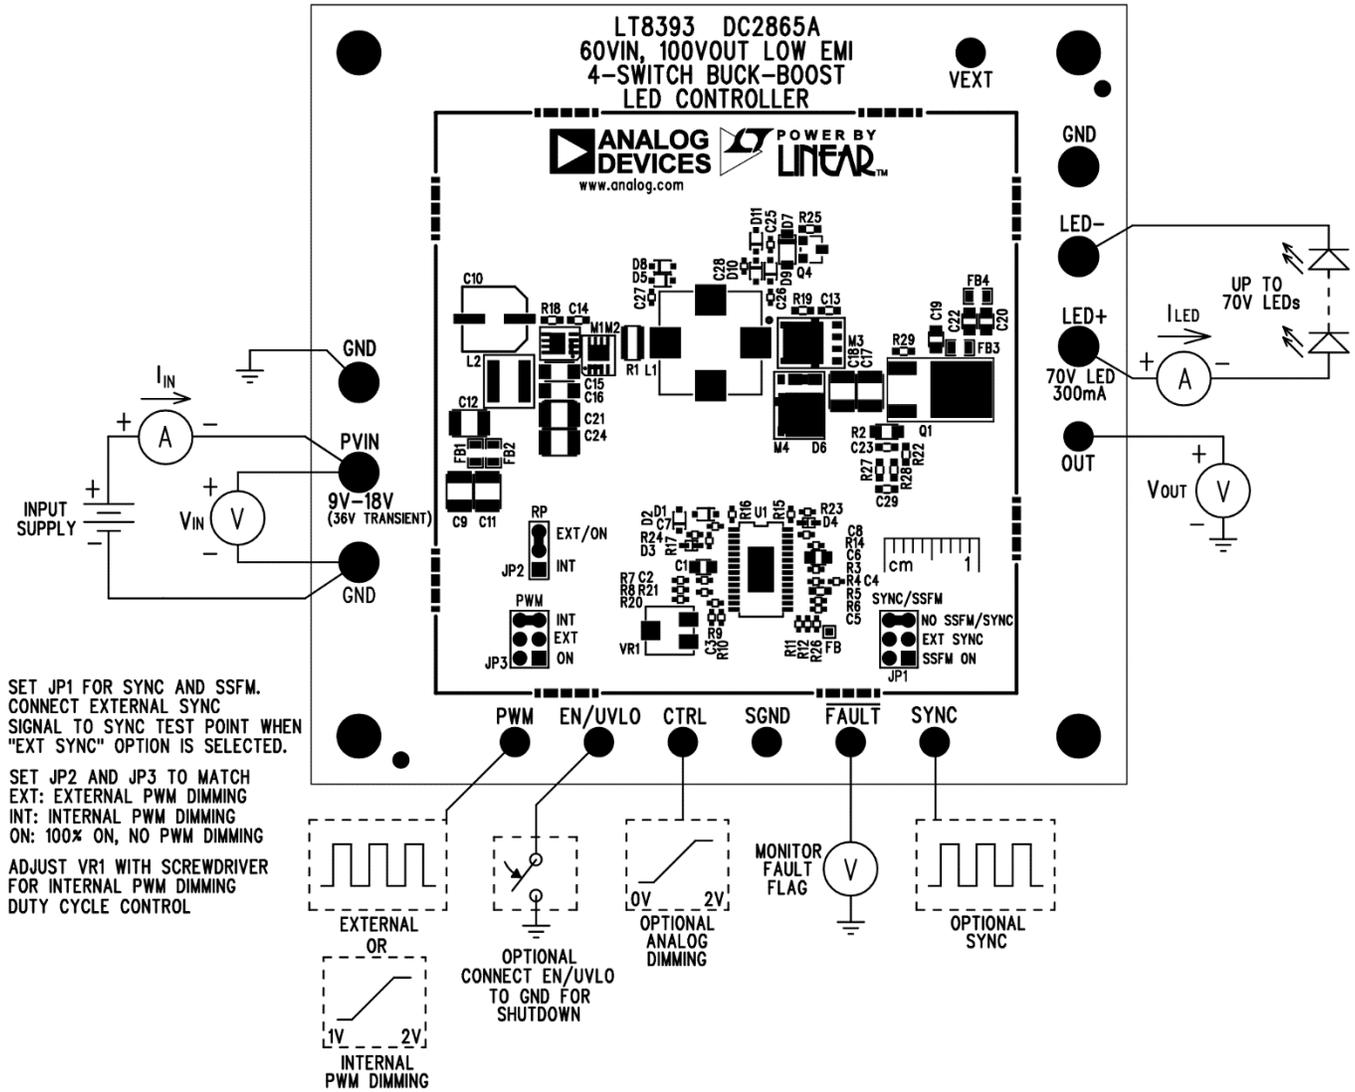

Figure 1. Test Procedure Setup Drawing for DC2865A
The DC2865A is easy to set up to evaluate the performance of the LT8393. Refer to Figure 1 for proper measurement equipment setup and follow the procedure below.
1. With power off, connect a string of LEDs that will run with a forward voltage less than or equal to 70V at 300mA to the LED⁺ and LED⁻ terminals on the PCB as shown in Figure 1.